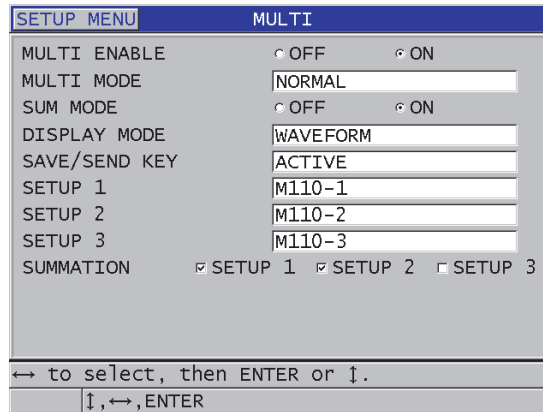

Figure 7-7 Setting multi-measurement parameters in the normal mode
5. In the **MULTI** screen (see Figure 7-7 on page 116):